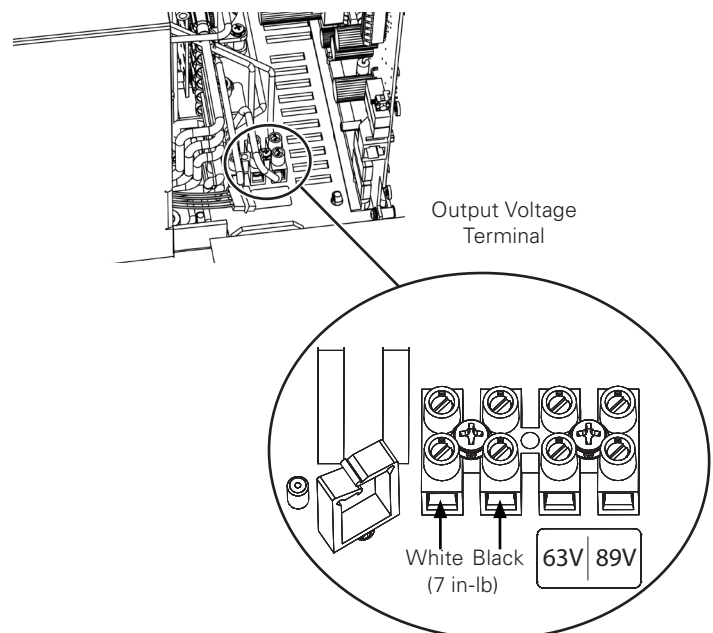

Fig. 2-15, Voltage Terminal Location and Wire Position
2. Loosen the terminal screw and move the output voltage wire to the desired output voltage position on the output voltage terminal (**Fig. 2-15**).